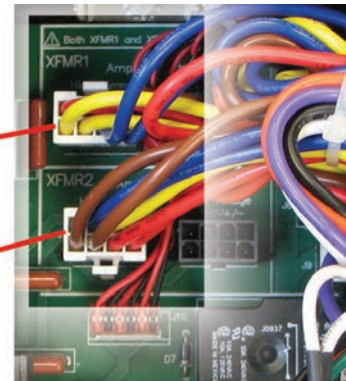

Figure 5.11 – J3 and J7 Plug Locations for High-Current Output
2. For High Current (90V) Output (see **Figure 5.11**).